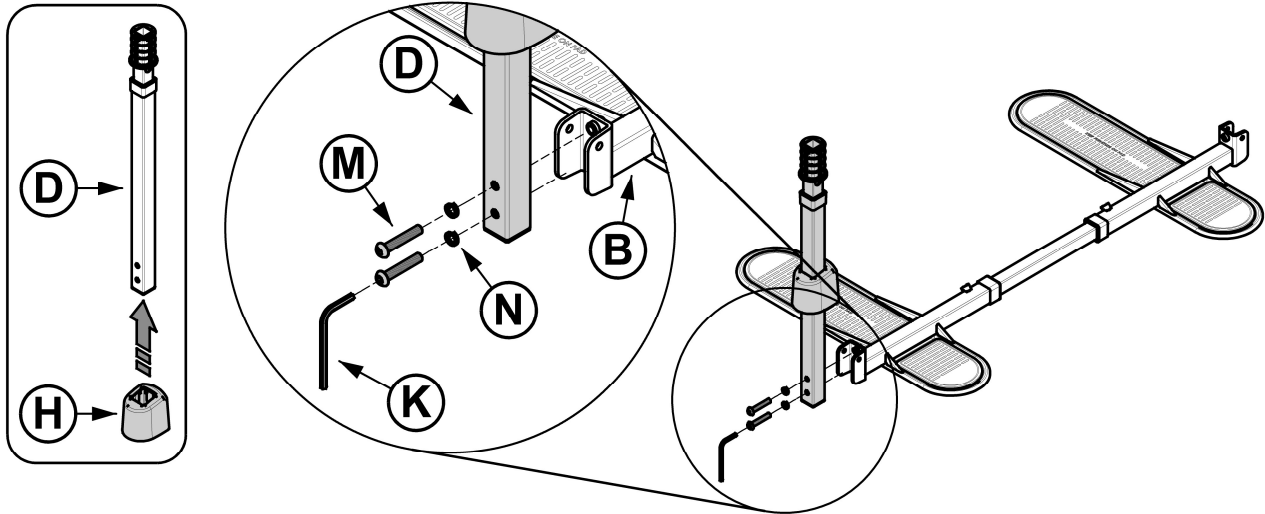

FIGURE 4
- Slide Plastic Cover **H** over Upright **D**. With Plastic Cover **H** held up, align bolt holes on Upright **D** with Front Foot **B**. Insert Bolts **M** (2x) through Washers **N** (2x) and Upright **D** and thread into Front Foot **B** and tighten with Tool **K** as shown in *FIGURE 4*.